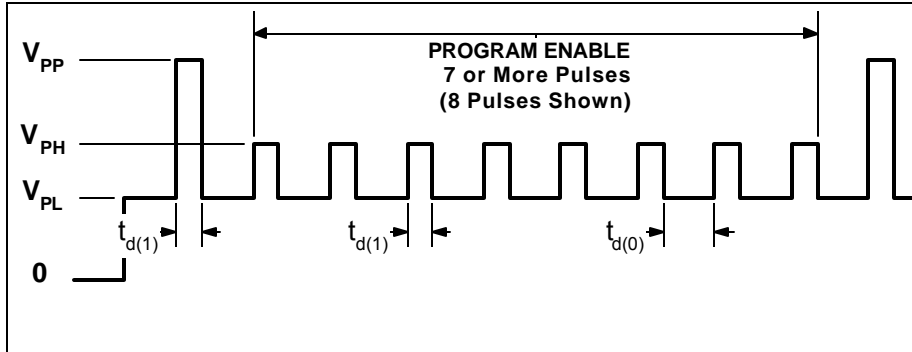

Figure 4 – Program Enable Pulse Sequence
**Program Enable.** To program the device, a keying sequence is used to activate / enable the programming mode as shown in Figure 4. This program key sequence consisting of a  $V_{PP}$  pulse, at least seven  $V_{PH}$  pulses, and a  $V_{PP}$  pulse with no supply interruptions. The sequence is designed to prevent the device from being programmed accidentally (e.g., as a result of noise on the supply line).